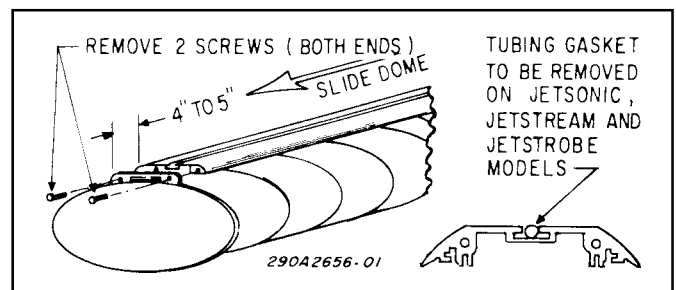

Figure 1.
1. Remove the two screws, located at the identification plate, at each end of a dome assembly. Slide both dome assemblies out about 4 or 5 inches, along the slots in the extrusion, and remove the plastic filler from the bottom of the extrusion. See figure 1.
When installing on a JetSonic, JetStream or JetStrobe lightbar, remove and retain the plastic filler (see figure 1).